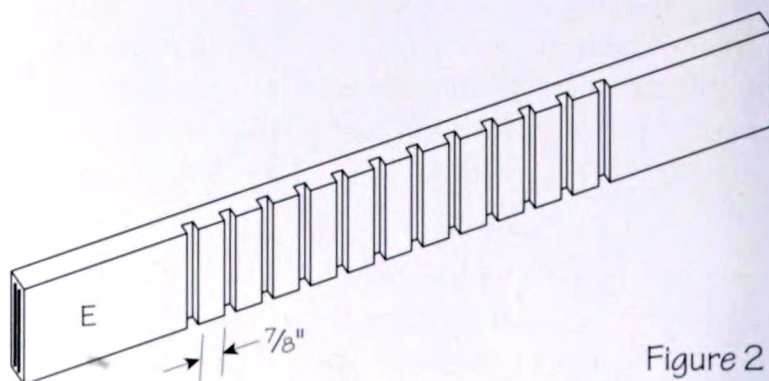

Figure 2
6. Mark the top edge of one short apron (D) for the slat dadoes. You need $12\frac{3}{8}$ " dadoes on $1\frac{1}{4}$ " centers. Rather than work with a bunch of 16ths, mark the center of the length of the apron. Then measure from the center $\frac{7}{16}$ " in one direction or the other, depending on the position of your table saw's miter gauge. Lay the apron, good face down, on the table saw, with its bottom edge against the miter gauge. The end toward the saw blade indicates the direction toward which you will measure and mark six slots. (Read on, Gentle Reader, for all will be made clear presently.) From the $\frac{7}{16}$ " line, mark a $\frac{3}{8}$ " dado, then a $\frac{7}{8}$ " space, repeating until you have six dadoes marked. Your last mark should be $5\frac{7}{16}$ " from the end of the apron (see figure 2).